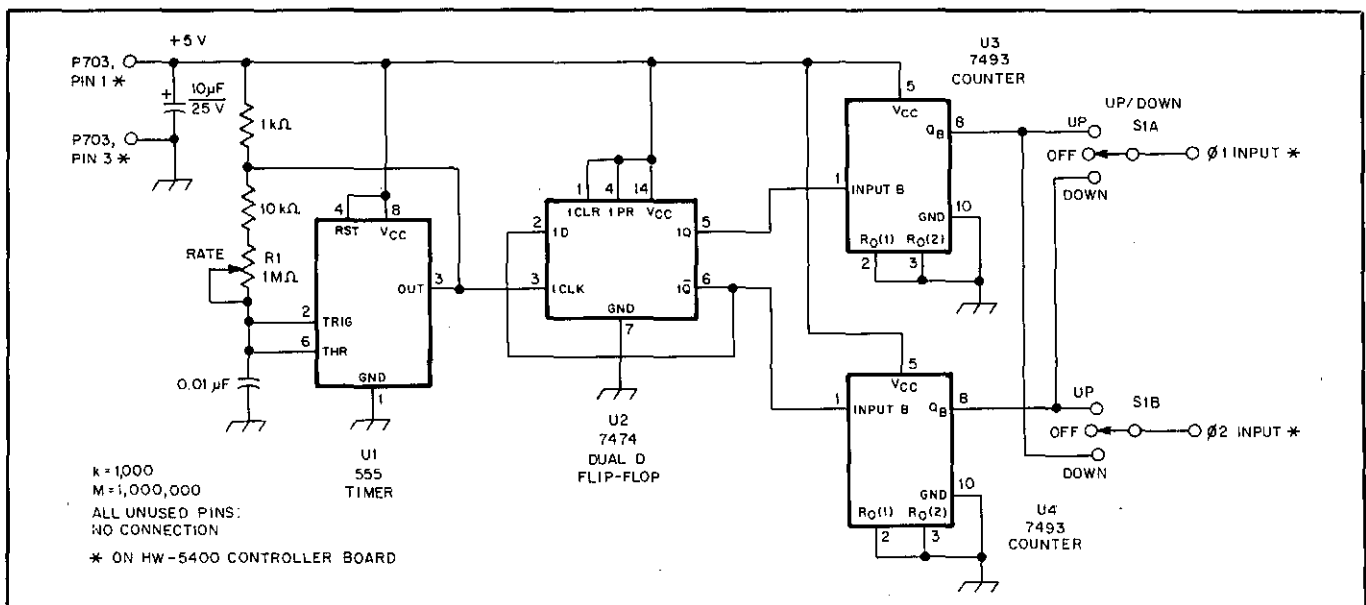

Fig 10—Dexter King's Speedy Tune circuit adds up/down frequency slewing to the Heath HW-5400 transceiver. R1 allows adjustment of the slewing rate.
□ After working a major SSB/CW contest with my Heath HW-5400 transceiver, I realized that I need a faster and easier method of changing frequency than that allowed by the stock '5400. The circuit shown in Fig 10 is my solution to this problem. Dubbed the Speedy Tune, it provides rapid up/down frequency slewing and is controllable by a momentary, DPDT, center-off toggle switch. The Speedy Tune is easy to build and does not affect the '5400's manual tuning.